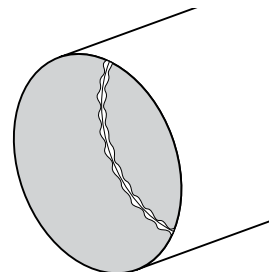

Figure 5
4. Pull the bottle out about 2" so it is out of your way. Push the bottle block up toward the bottle. Apply a bead of glue at the top of the line drawn in Step 3 (Figure 5) and smear the glue upward a bit into the tube. Be careful not